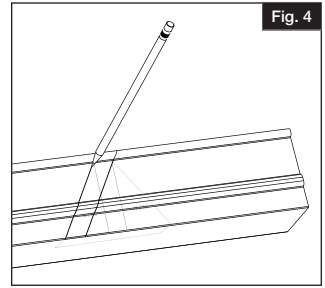
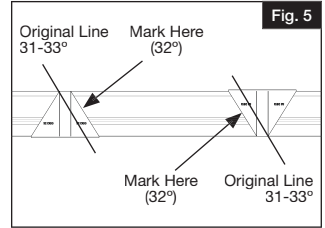

Fig. 4
Fig. 5
Place bottom rail across post opening leaving equivalent spacing from the last baluster and post on each end (Fig. 3). Mark 2" from end of post to allow room for bracket width and expansion (Fig. 4). Align top rail with bottom rail and cut both rails with miter box or hacksaw (See blade manufacturer's specs for correct blade) (Fig. 5).
- From the original line created by the post, mark another line  $\frac{1}{16}$ " on the inside of the bottom rail (closer to the baluster routes) (Fig. 4). This is accomplished by using the angle template (Fig. 5). This additional removal of material will allow for bracket clearance when the rail is installed. For this 31°-33° angle, the new line will be parallel to the previously drawn line.